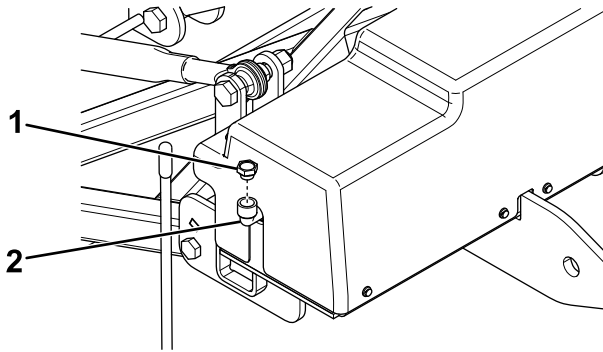

Figure 31
2. Clean the area around the fill cap (Figure 31).
3. Remove the fill cap from the hydraulic reservoir (Figure 31).
4. Slowly fill the reservoir with BOSS high-performance hydraulic fluid to the bottom of the fill elbow (Figure 31).